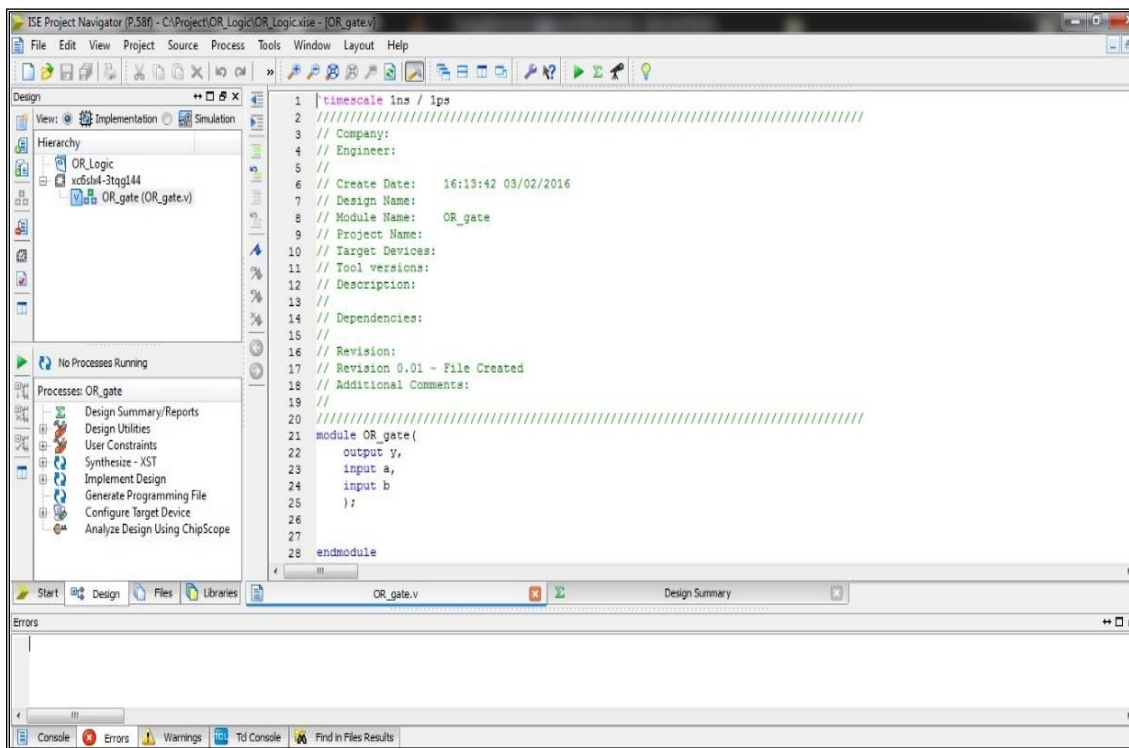

Fig 1.9: OR gate Structure in the workspace
11. In the **ISE Text Editor**, a template of the Verilog source file, based on the information you provided while creating the new source, is already generated by Xilinx ISE Design Suite (Fig 1.9). Now you need to complete the source code for the OR logic gate. For the current experiment, data flow modeling style is used. You can also write the desired logic by using gate level or behavioral modeling style.